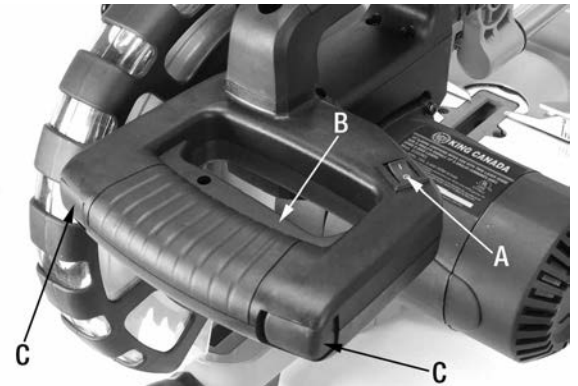

FIGURE 14
The twin laser guide system is controlled by the laser guide push button switch (A) Fig.14 and will only turn on when the miter saw is plugged into a power source.
This miter saw comes with a safety feature which is designed to reduce accidental starts. The trigger (B) Fig.14 comes with 2 safety buttons (C) Fig.14, one of these safety buttons must be pressed in order to engage the trigger and turn the miter saw on. If safety button is not pressed, the trigger can not be activated.